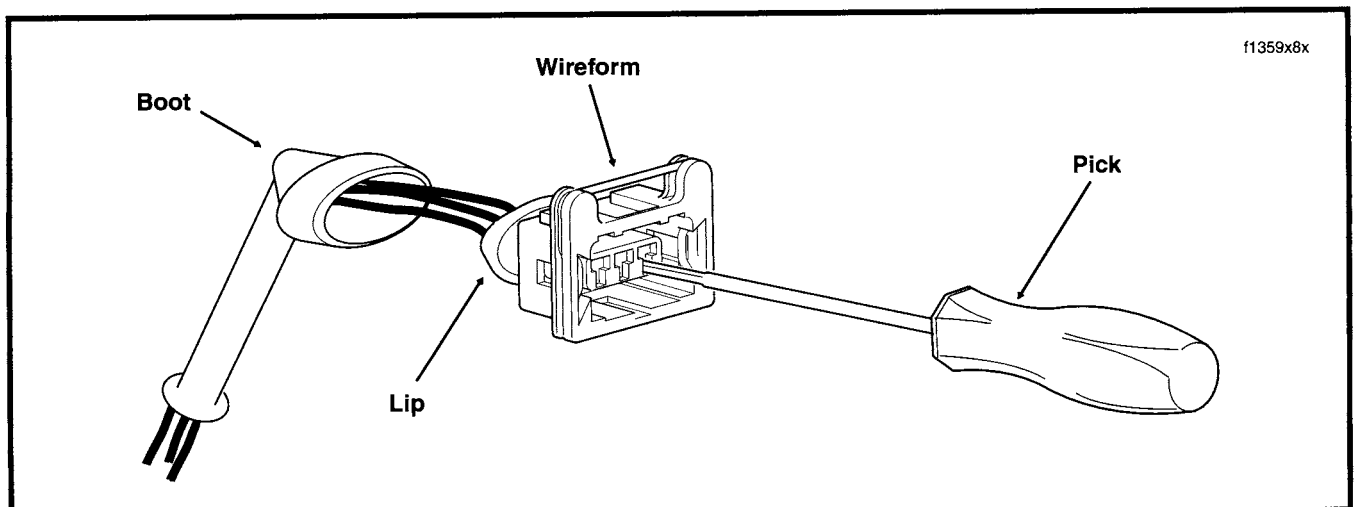

Figure 164. Insert Pick Into Channel on Mating End of Connector
4. Holding the terminal in the forward position, insert the pick (Snap-On TT600-2) into the channel on the mating end of the connector until it bottoms in the chamber. See Figure 164.